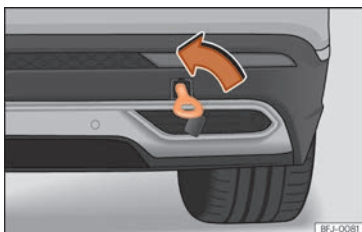

Fig. 48 On the right side of the rear bumper: towline anchorage in position.
- Screw the towline anchorage into the housing by turning it as far as it will go **anticlockwise** » **Fig. 48** » **!**. Use a suitable object that can completely and securely tighten the towing eye in its housing.